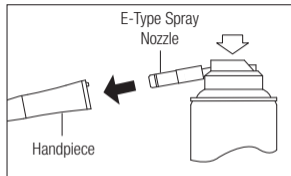

Fig. 7
- 2) Insert the Spray Nozzle into the rear of the handpiece. Hold the handpiece and spray for approximately 2-3 seconds. Apply lubricant until it expels from the handpiece head for at least 2 seconds (Fig. 7).
- 3) Lubricate handpiece by using NSK PANA SPRAY Plus (Fig. 7) or NSK automatic handpiece cleaning and lubrication system.